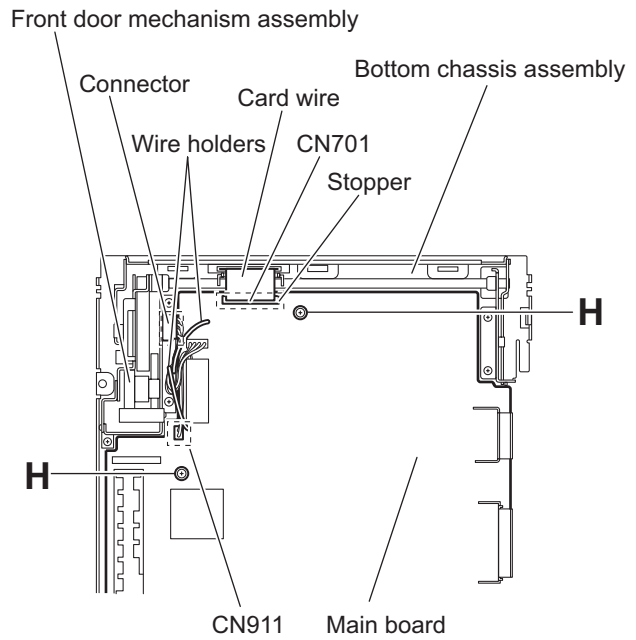

Fig.11
- (2) From the top side of the bottom chassis assembly, remove the two screws **H** attaching the main board to the bottom chassis assembly. (See Fig.11)
- (3) Release the stopper of the connector **CN701** on the main board in an upward direction, disconnect the card wire from the connector **CN701**. (See Fig.11)
- (4) Disconnect the wire from the connector of the front door mechanism assembly. (See Fig.11)
- (5) Disconnect the wire from the connector **CN911** on the main board. (See Fig.11)